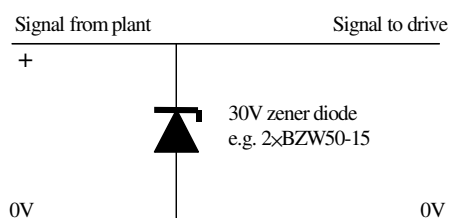

Figure 1 Surge suppression for digital and unipolar analogue inputs and outputs
3. Additional over-voltage suppression. This applies to analogue and digital inputs and outputs. A zener diode network or a commercially available surge suppressor may be connected between the signal line and 0 V as shown in Figures 1 and 2.